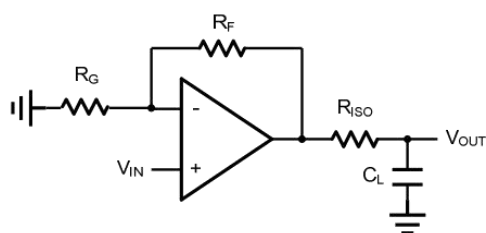
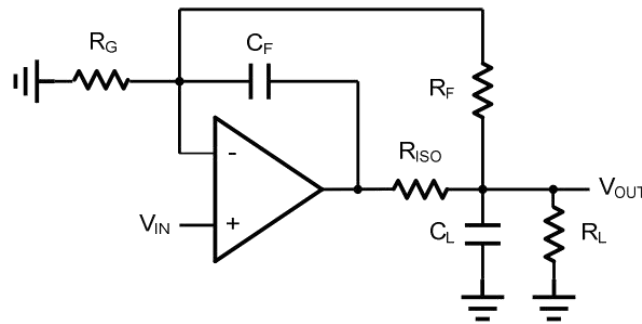

Figure 2. Indirectly Driving a Capacitive Load Using Isolation Resistor
Figure 3. Indirectly Driving a Capacitive Load with DC Accuracy
The TLV379 family is optimized for bandwidth and speed, not for driving capacitive loads. Output capacitance will create a pole in the amplifier's feedback path, leading to excessive peaking and potential oscillation. If dealing with load capacitance is a requirement of the application, the two strategies to consider are (1) using a small resistor in series with the amplifier's output and the load capacitance and (2) reducing the bandwidth of the amplifier's feedback loop by increasing the overall noise gain. Figure 2. shows a non-inverting gain circuit using the series resistor strategy. The resistor isolates the output from the capacitance and, more importantly, creates a zero in the feedback path that compensates for the pole created by the output capacitance.
The circuit in Figure 3 is an improvement to the one in Figure 2. R_F provides the DC accuracy by feed-forward the V_{IN} to R_L . C_F and R_{ISO} serve to counteract the loss of phase margin by feeding the high frequency component of the output signal back to the amplifier's inverting input, thereby preserving the phase margin in the overall feedback loop. Capacitive drive can be increased by increasing the value of C_F . This in turn will slow down the pulse response.